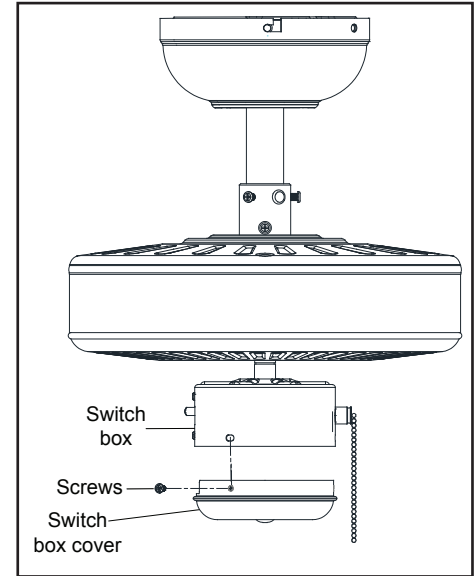

Figure 10
6. Position the switch box cover onto the switch box and install screws. (Figure 10)